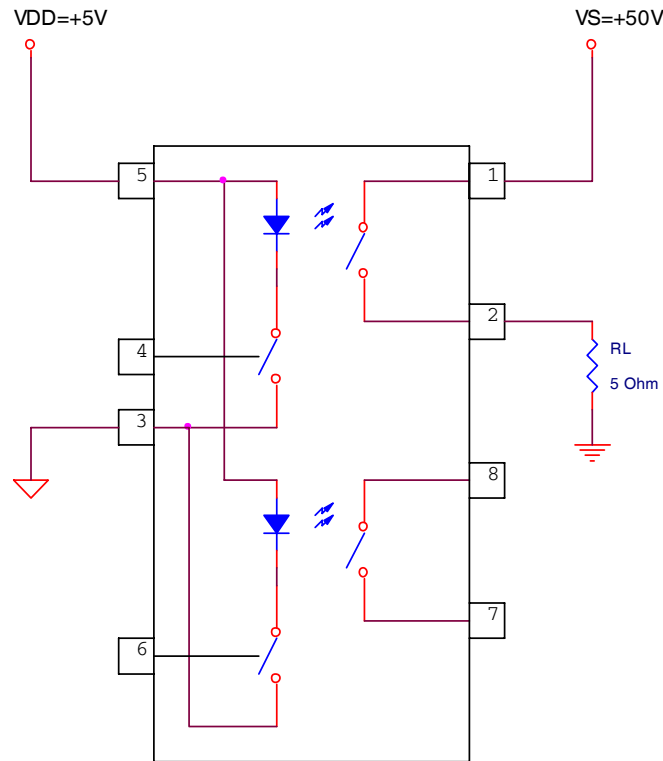

Figure 3: Switching Test Circuit (Only one channel shown)
6. Reference Figures 3 & 4 for Switching Test Circuits and Wave Form; Output Voltage (V_o) of Figure 4, Switching Test Wave Form is representative of the Output MOSFET and Drain-to-Source.